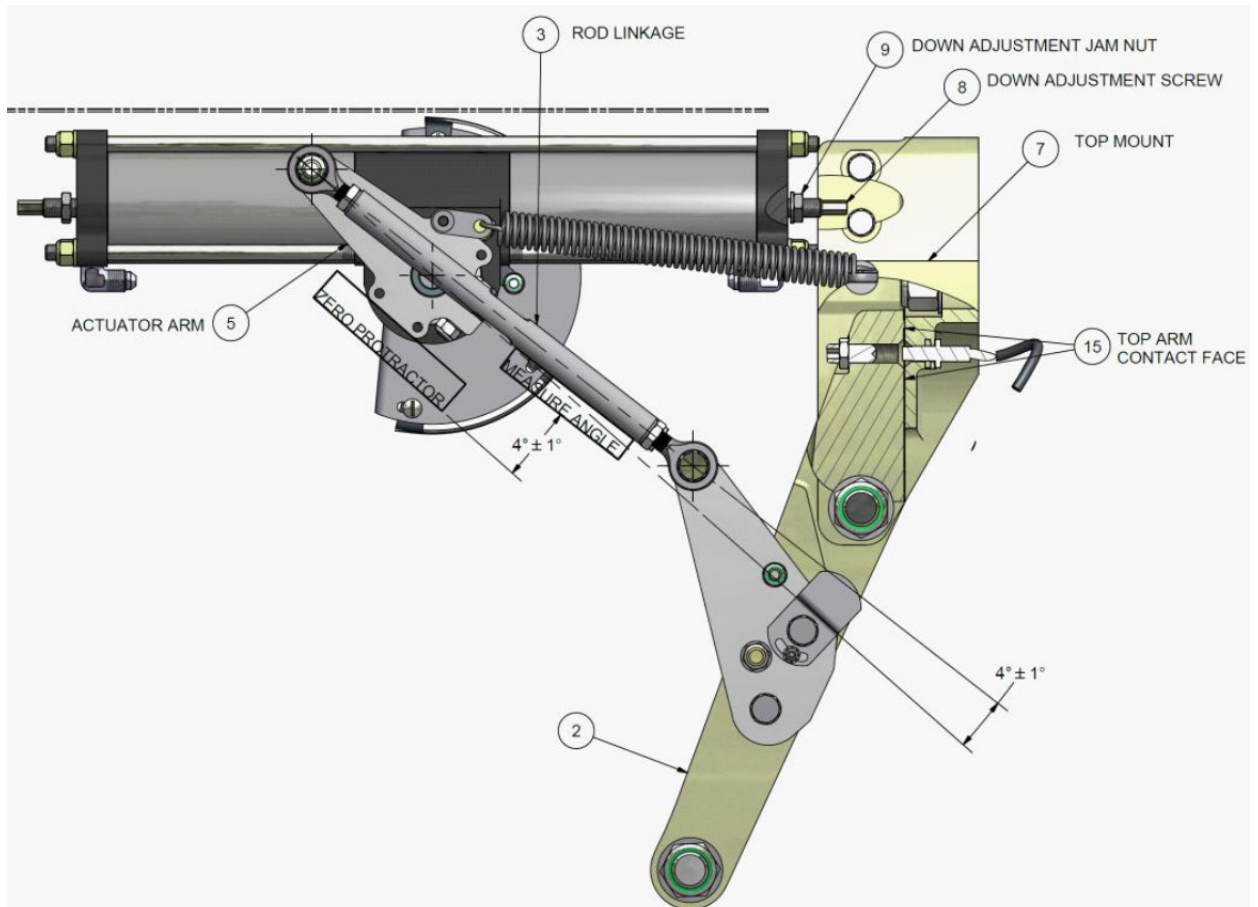

FIGURE 4-4B MAIN GEAR ADJ. DOWN
22. Using a small digital protractor, the over-center angle will be verified. Lay the protractor across the bottom of the lower two screw holes in the actuator arm. Note: Older float models may not have flat spot shown; use the same location as shown. Zero the protractor. See Figure 4-4B. Then place the protractor on the top or bottom of the rod linkage. The measured angle should be $4^{\circ} \pm 1^{\circ}$. Repeat for the other actuator arm and rod linkage by zeroing the protractor on the other actuator arm and measuring the rod linkage angle.
28. Check the operation of the over center down lock. As the actuator rotates causing the contact faces to touch, the actuator arm should continue to rotate and "snap" past Top Dead Center (TDC). Make sure that there is preload on the linkage rods so that contact faces remain touching past TDC. Push and pull on the Top Arm Assembly (Item 2) to ensure it is locked over center. The Top Arm Assembly needs to be contacting the Top Mount (Item 7) when the gear is extended to properly transfer the landing loads. Ensure Top Arm and Top Mount are making contact by sliding a 3-inch wide piece of paper in (See Figure 4-4B and photo on this page), then moving gear to down and locked position. If paper is tight, gear is rigged correctly. If paper is able to slide out, then the Top Arm and Top Mount are not making proper contact and need further adjustment.
2. Loosen the jam nut on the Gear Down Proximity Switch located on the back of the Main Gear Top Mount. Thread the Gear Down Proximity Switch in or out until the face of the sensor is flush with the face of the Main Gear Top Mount. Reference Figure 4-4B. Tighten the jam nut on the proximity switch to 10 +/- 3 inch-pounds.